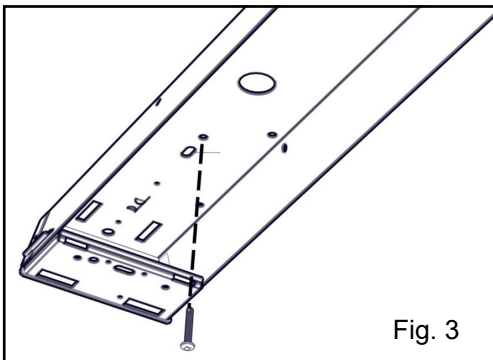

Fig. 3
7. Mount the luminaire to the mounting surface using wood screws or appropriate hardware (by others). If no joists are present, use toggle bolts (by others). Fig.3